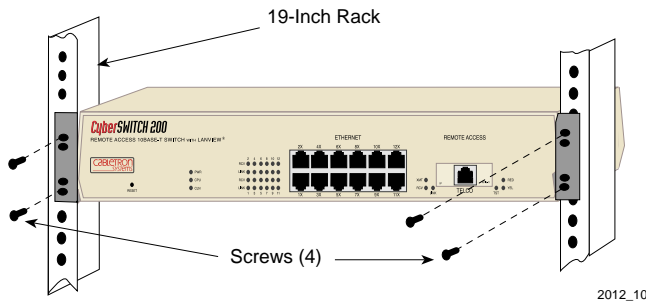

Figure 11 Installing the CSX200 in the Rack
2. Fasten the CSX200 with mounting screws as shown in **Figure 11**.